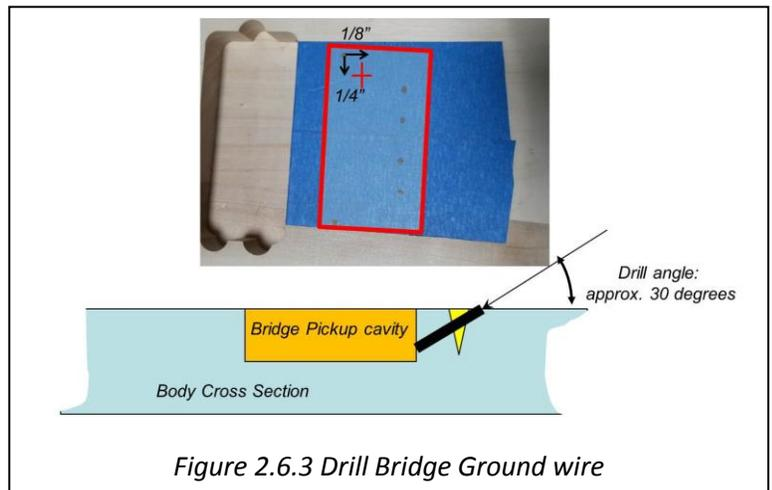

Figure 2.6.3 Drill Bridge Ground wire
- Place a piece of painters tape between the two forward mounting holes. Mark a spot between the forward mounting holes, 1/4" inside and 1/8" back from the mounting screw hole nearest the volume controls (Figure 2.6.3).
- Keeping in mind that the objective is to create a channel between the Bridge and Bridge pickup cavity, ***use extreme caution*** and drill a 3/16" hole from the marker spot in the Bridge mounting area to the Bridge pickup cavity, at an angle of approximately 30 degrees, as shown in Figure 2.6.3.